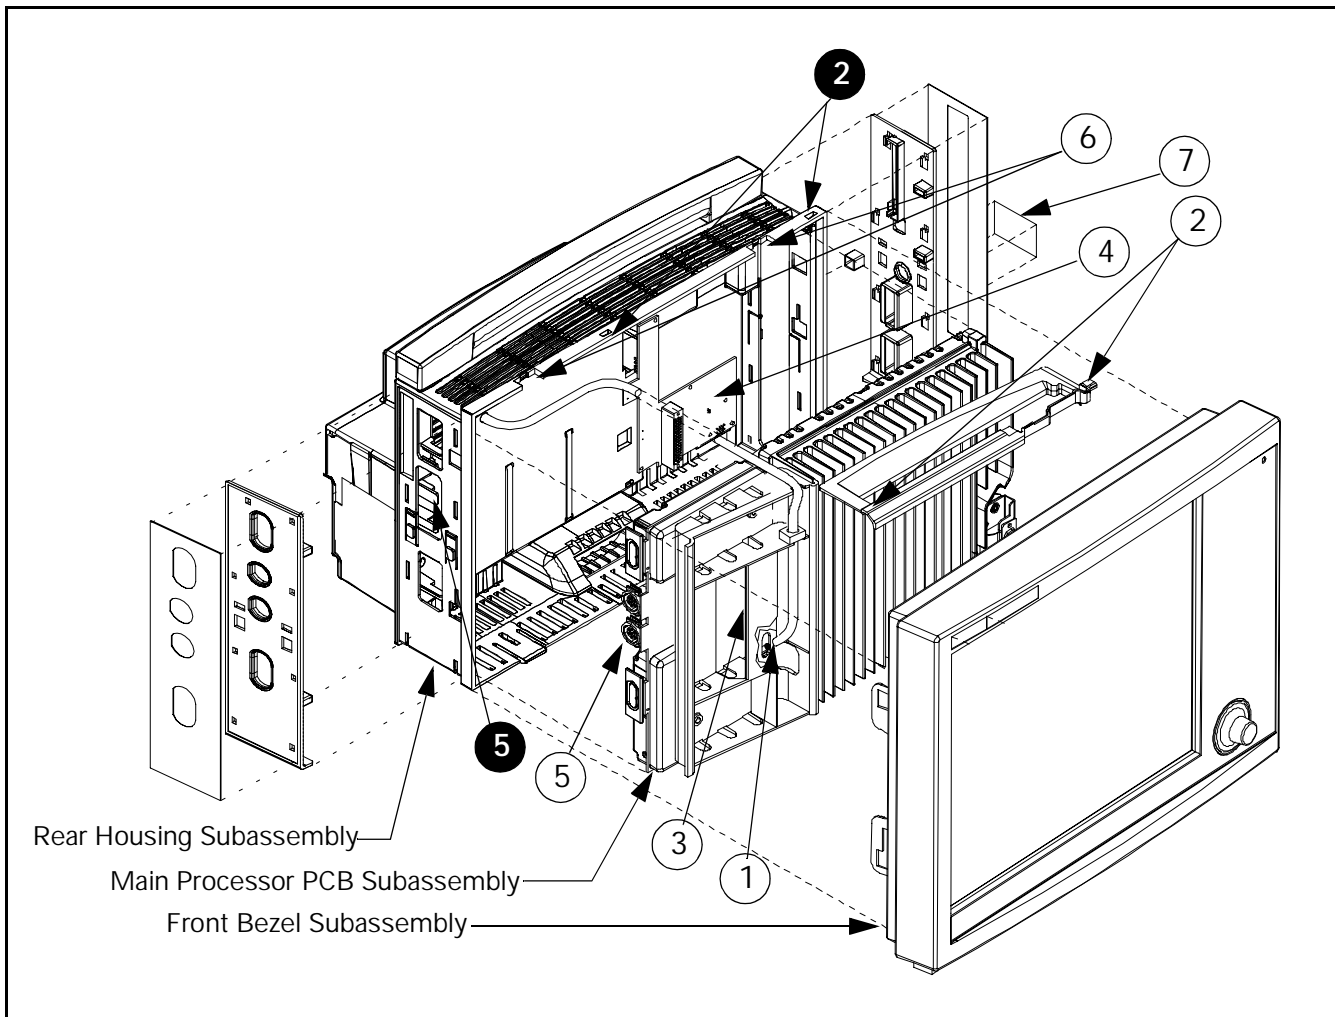

Figure 3-8 (replacement) SC 9000XL w/ 12in (30.5cm) Display - Rear Housing Subassembly, Main Processor PCB Subassembly, and Front Bezel Subassembly
Locking tabs in the rear housing have been removed (see ⑥ in Figure 3-8) to accommodate the 12in (30.5cm) Front Bezel Subassembly. With the exception of a slight change in the remove/install procedure for the funnel, however, all other procedures in this section of Chapter 3 in the Service Manuals remain unchanged.
Note: Items ①, ③, ④, ⑤ and item ⑤ in Figure 3-8 correspond to text references in the SC7000 and SC9000XL Service Manuals. Items ②, ② and ⑥ are references for this supplement. Item ⑦ is a label that is removed for DirectNet operation of the Monitor.
The funnel has no locking tabs (② in Figure 3-8) but rather slides into channels designed to provide a snug fit in the top of the rear housing.
- To remove the funnel, grasp it firmly in the area of the former tab slots (② in Figure 3-8) and carefully work it out of the channels.